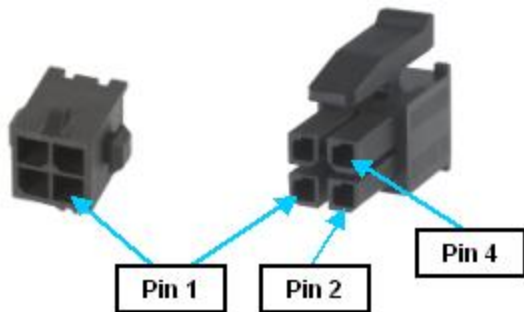

Figure 4-20: Four-Pin Connector and Plug
This is a 4-pin AMP 3-794620-4 connector that: (1) outputs a signal that controls turning on and off an external motor power supply and (2) provides the 24 VDC that powers the digital section of the controller. The mating plug is an AMP 794617-4. See Figure 4-20.